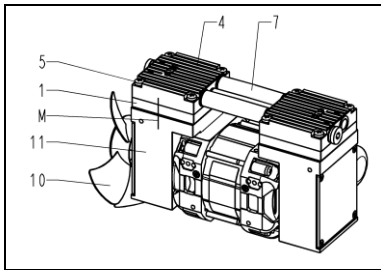
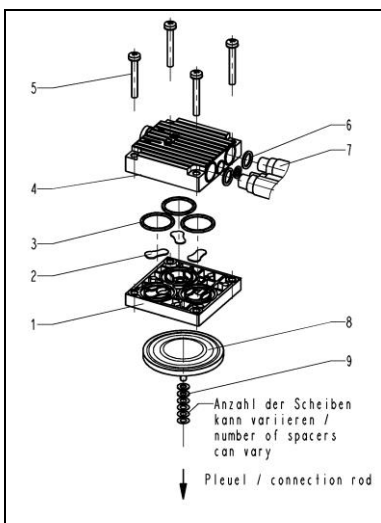

Fig. 4: Pump N 916.50 KPE
Fig. 5: Pump head (exploded drawing, symbolic)
** according to Fig. 5
Mark the position of head plate (Fig. 4/4), intermediate plate (1) and pump housing (11) relative to each other by a drawing line (M) with a felt-tip pen. This helps avoid incorrect assembly later.
- Turn the fan (Fig. 4/10) to bring one diaphragm (Fig. 5/8) to top dead centre.
- Lift the edge of the diaphragm (Fig. 5/8) and, gripping it on opposite sides, unscrew it by turning anti-clockwise.
- Take the diaphragm spacers (9) off the threaded portion of the diaphragm and retain them.
- Put the diaphragm spacers (9) on the thread of the new diaphragm.
- Turn the fan (Fig. 4/10) until the connecting rod (connecting part between motor shaft and diaphragm) is at top dead centre.
- Screw the new diaphragm (Fig. 5/8), complete with diaphragm spacers (9), into the connecting rod (clockwise) and tighten it by hand.
- Lay the new O-rings (3) in the intermediate plate (1).
6. Place the head plate (4) on the intermediate plate (1), in the position indicated by the marking (Fig. 4/M).
7. Check that the head plate (Fig. 5/4) is centered by moving it gently sideways.
1. Place the two pump heads that are joined by the connecting tube (7) on the housing according to the markings (Fig. 4/M).
Gently tighten the screws (Fig. 5/5) , evenly and diagonally.
3. Turn the fan (Fig. 4/10) to check that the pump rotates freely.
4. Now tighten at both pump heads screws (Fig. 5/5) diagonally hand-tight.
*according to Fig. 5